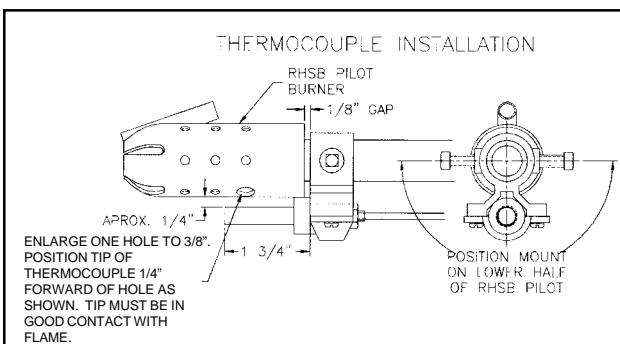

Figure 3
3. The temperature element must be installed on the lower half (between 3 and 9 o'clock) of the pilot burner, as shown in Figure 3.
4. Enlarge one hole in the side of the RHSB to 3/8" as shown in Figure 3.
Pilot goes out when reset latch is released.	<ol style="list-style-type: none">1. The temperature-sensing element has not come up to temperature and will not engage the magnetic circuit. Re-light the pilot and leave the reset button latched longer.2. The reset button was not fully depressed prior to release. (Partially depressing the reset button will allow gas to flow to the pilot but will not engage the CM7 Pilot Guard magnetic circuit. Prior to releasing, bottom out the reset button.3. The reset button was not released smoothly, causing the inner valve to close. Always release the reset button slowly after bottoming it out.4. The temperature-sensing element is improperly installed. Refer to Figure 3 and adjust as necessary.5. The temperature-sensing element has been disconnected. Check plug.6. The sensitivity pot is not turned full clockwise.
CM7 Pilot Guard fails to shut off gas to pilot or burner, or does not react within 45 seconds.	<ol style="list-style-type: none">1. The temperature-sensing element is improperly installed. Refer to Figure 3 and adjust as necessary.2. Check for damage to the inner valve seal (O-ring 67321473). Replace if necessary.3. Check setting of sensitivity potentiometer.